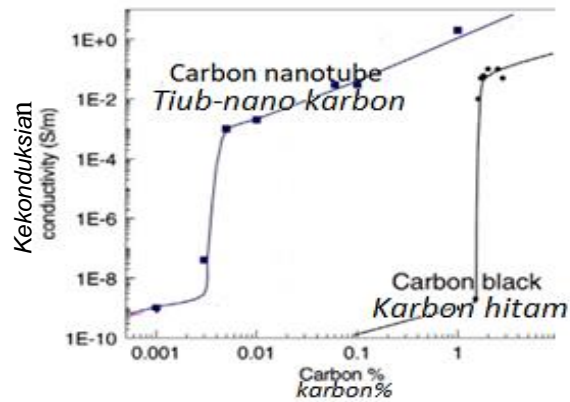

Figure 1: Effect of filler content on conductivity.
- (b). An epoxy composite using conductive carbon nanotube and carbon black as filler are fabricated. The changes in the conductivity with the filler content is shown in Figure 1. Answer the following: